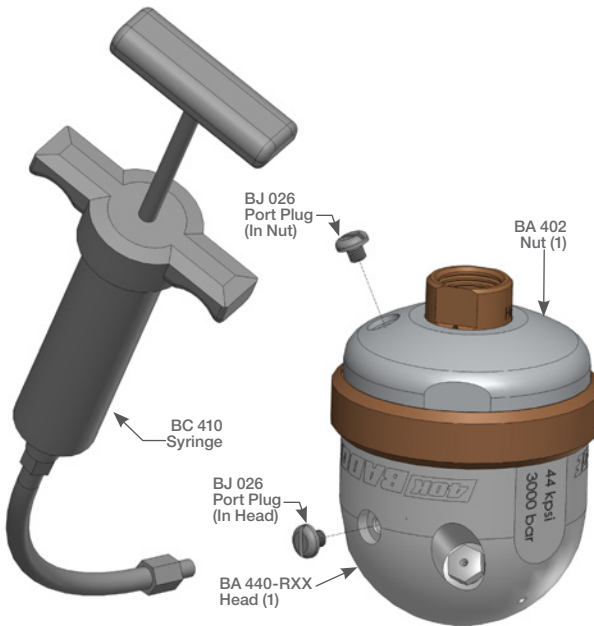

Figure 1: Viscous Fluid Flush
1. Remove the Port Screws (BJ 026) in the Nut (BA 402) and Head (BA 440-RXX) (see Figure 1).